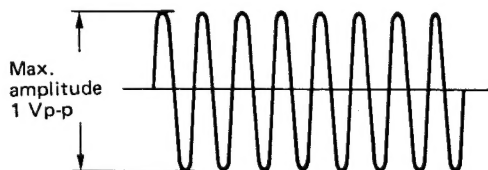

Figure 9. Waveform
3. Adjust LK01 for the maximum amplitude of waveform (See figure 9.) while holding down VOLUME DOWN Button on the hand unit.
4. Rotate the core of LK01 for the maximum amplitude of waveform on the scope, clockwise from the fully counterclockwise position. (See figure 9.)